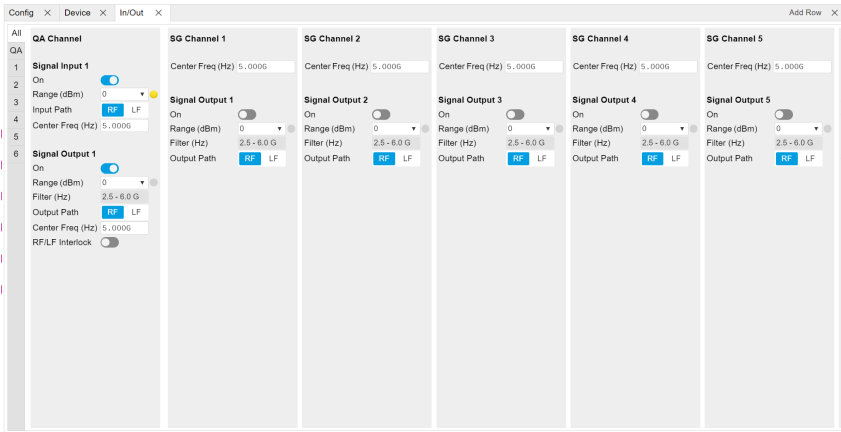

Figure 4.29: Configurations on In/Out Tab.
- Configure these parameters on the Input and Output Tab as in Figure 4.29 and in Table 4.26.